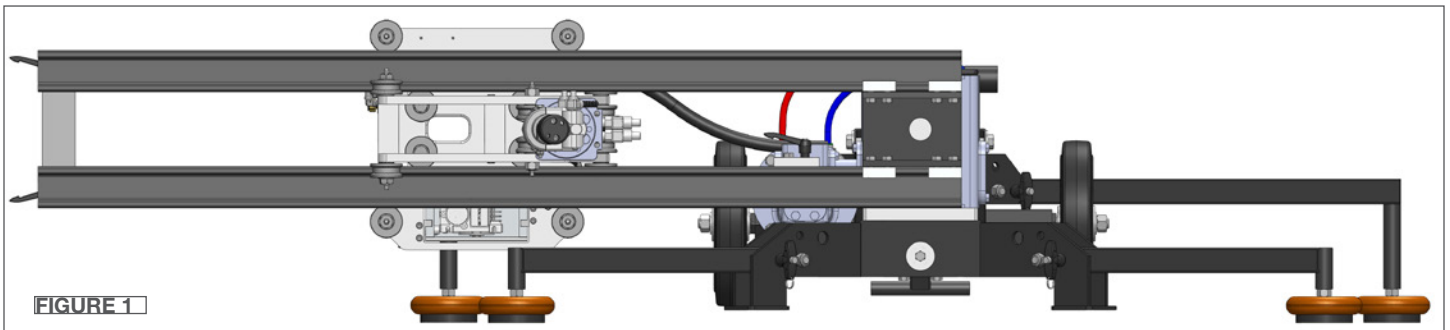

FIGURE 1
1. Using the Control Box rotate the Vertical Rail Assembly into a horizontal position as shown in **(Figure 1)**.